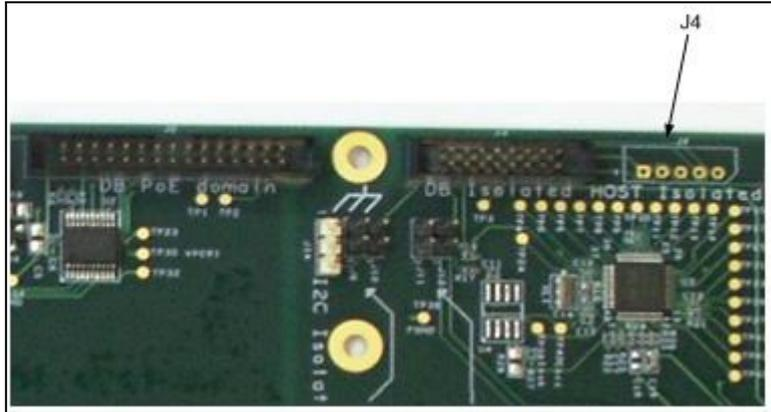

Figure 14: Isolated External Host
5. Isolated External Host (see Figure 14)